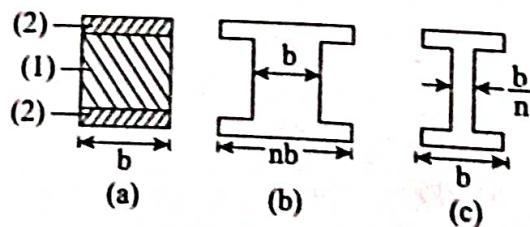

Figure 9.13
Alternately, the composite section may be replaced by an equivalent homogeneous section. Thus the section shown in Fig. 9.13(a) is equivalent to the section in Fig. 9.13(b) composed entirely of material (1) or to the section in Fig. 9.13(c) composed entirely of material (2). Where  $\frac{E_2}{E_1} = n$ .